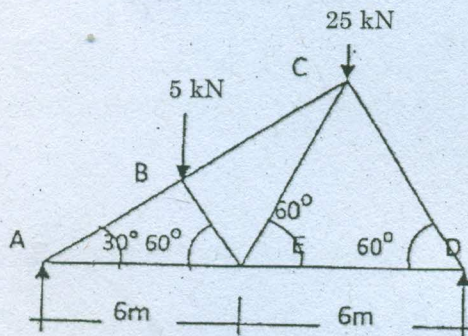

Fig. 12 (a)
- (b) (i) Derive the relationship between Bulk modulus and Young's modulus. (6)
- (ii) Derive relations for normal and shear stresses acting on an inclined plane at a point in a strained material subjected to two mutually perpendicular direct stresses. (10)
12. (a) Analyse the truss shown in Fig. 12 (a)